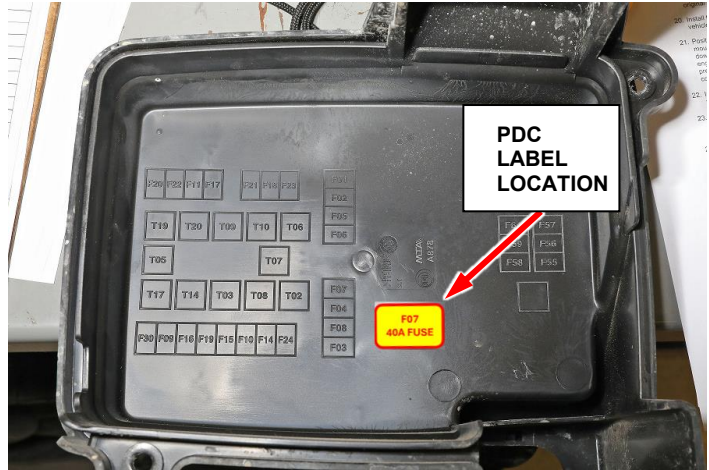

Figure 21 – PDC Label Location
54. Using isopropyl alcohol and a clean cloth, clean the area where the PDC label will be applied. Allow the alcohol to evaporate before applying the label (Figure 21).
56. Apply the PDC label in the position shown in Figure 21.